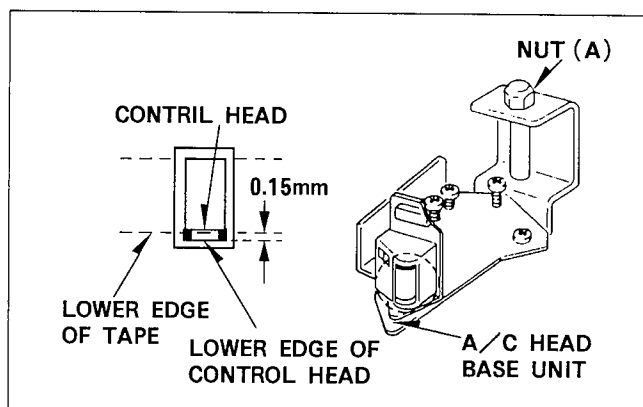

Figure M28-A
2. Adjust the Nut (A) as shown in Figure M28-A by turning the Nut (A) clockwise to lower the head, and counterclockwise to raise it.